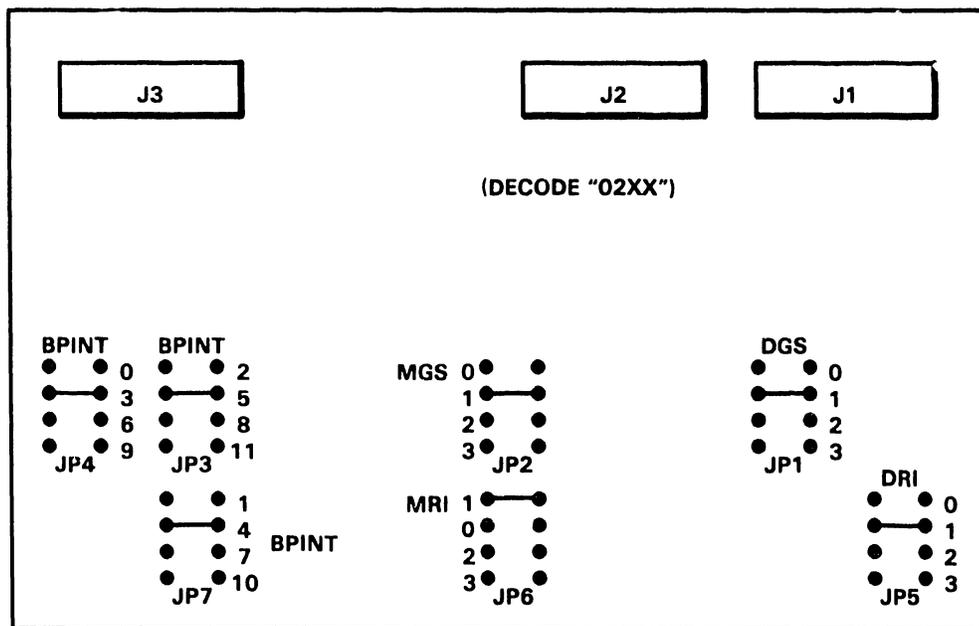

Figure 5-12. 210-8325 Quantum Device Adapter Connector and Jumper Locations
3. Check the jumpers (figure 5-12) on the device adapter and install new the adapter in Motherboard slot #5 as described in 5.3.4.4.1.